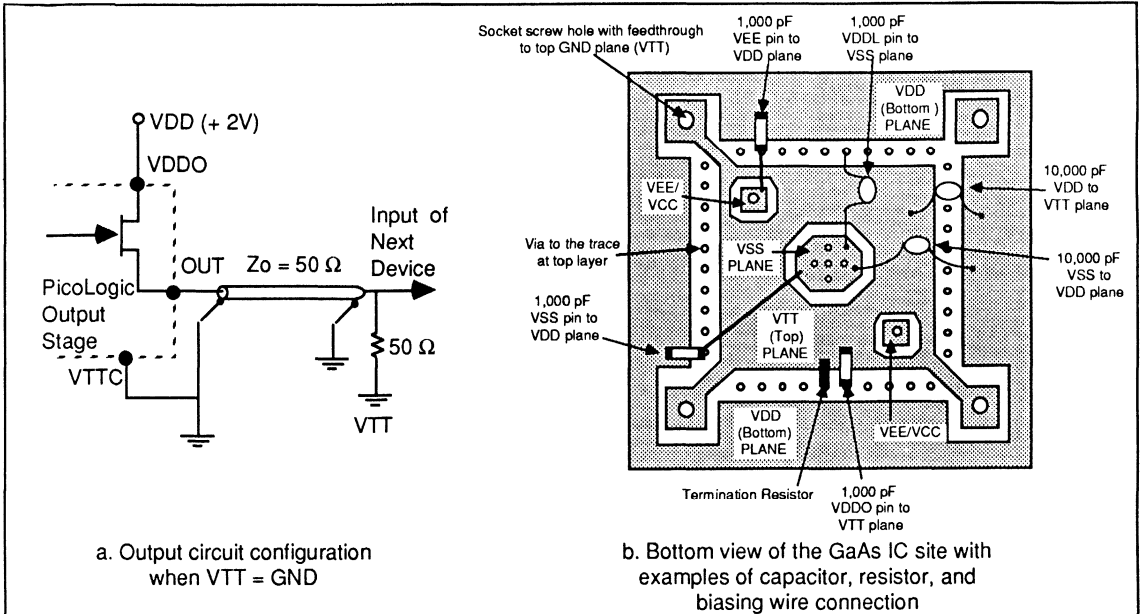

Figure 2. Circuit configuration when VTT = GND and VDD = +2V
This configuration (refer to Figure 2 and 4a) is normally used in test environments where the output is driving an oscilloscope with 50Ω input impedance to GND. In this configuration, pins 12 and 13 (VTT) are assigned to the top plane of the 90GUPB board by using bus wire between the two VTT board inputs and the top plane as shown in Fig 2 and 4a. Pins 3 and 4 (VDDO and VDDL respectively) are assigned to the bottom plane by bussing the VDDO and VDDL input pads on the board bottom to the bottom plane of the 90GUPB. VTT is now system ground since the outer shell of the SMA connector is connected to the top of the 90GUPB (VTT) and to the ground of the scope via the shield of the coaxial cable. With VTT = GND, then VDD = +2.0 V, VEE = -3.2 V, VSS = -1.4 V.
VTT) and the VSS plane. This may best be accomplished by decoupling all VSS pins to the VTT plane in Fig. 2 or to the VDD plane in Fig. 3. As is shown in Figures 2b and 3b, the VSS plane at the bottom center of the IC site is bypassed with a capacitor to the plane just surrounding it which is always connected to the top plane. This will aid in maintaining the 50Ω characteristic impedance of the footprint traces at the top of the board. Two feedthrough holes, which are connected to the 2nd layer, are located next to pins 8 and 18 (14) of the 24 (20) pin DIP IC sites so that in case ECL devices are installed in these sites, their VEE pins can easily be connected to the VEE plane through these points, or, TTL devices may derive their power from the VCC plane.
- Solder a jumper wire on the board bottom between all VSS trace vias and the VSS plane (see Figure 2 and 3 for location of VSS plane on the IC site);
Chip capacitors and resistors should be placed as follows (see Figures 2, 3 and 10 for details):